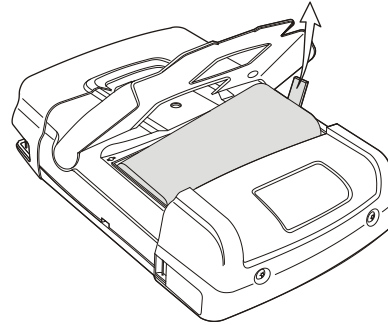

Figure 49. Removing the Battery
5. Lift one side of the battery and remove it (Figure 49)